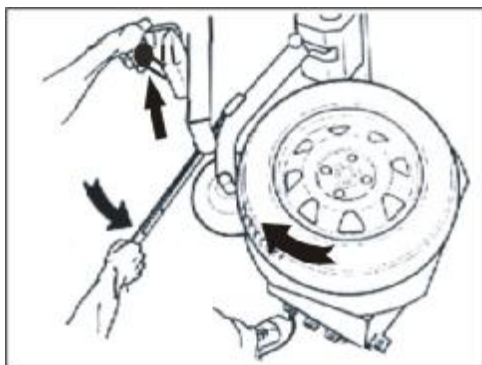

Fig.34
- I Draw out the disk, and make the disk under the lower bead, but not under rim. Insert the tyre lever between the head and bead and press it down. Lift the control lever up to break the bead from rim groove. Make the lower tyre bead opposite to mount/demount head enter into the rim groove, and prize the lower tyre bead onto the ball protuberance (fig.34).